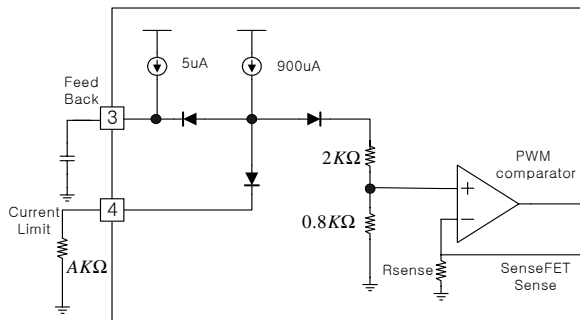

Figure 12. Peak current adjustment
8. Adjusting Current limit function: As shown in fig 12, a combined $2.8K\Omega$ internal resistance is connected into the non-inverting lead on the PWM comparator. A external resistance of Y on the current limit pin forms a parallel resistance with the $2.8K\Omega$ when the internal diodes are biased by the main current source of $900\mu A$.